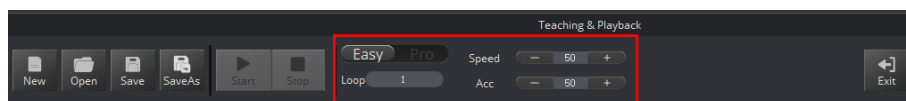

Figure 5.16 Set Easy/Pro, Loop, Speed and Acceleration (Acc)
- In both **Easy** and **Pro** modes, you can switch between **Easy** and **Pro** modes, set loop, speed percentage, and acceleration percentage, as shown in Figure 5.16.